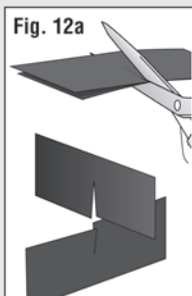
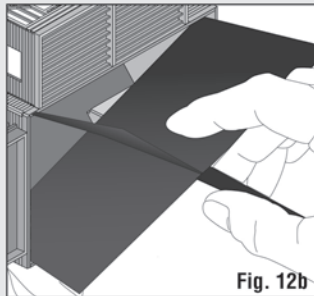

Fig. 12a
Fig. 12b
- Place sheets on top of each other and cut a notch half-way up (Fig. 12a). Assemble and insert into Building diagonally (Fig. 12b).